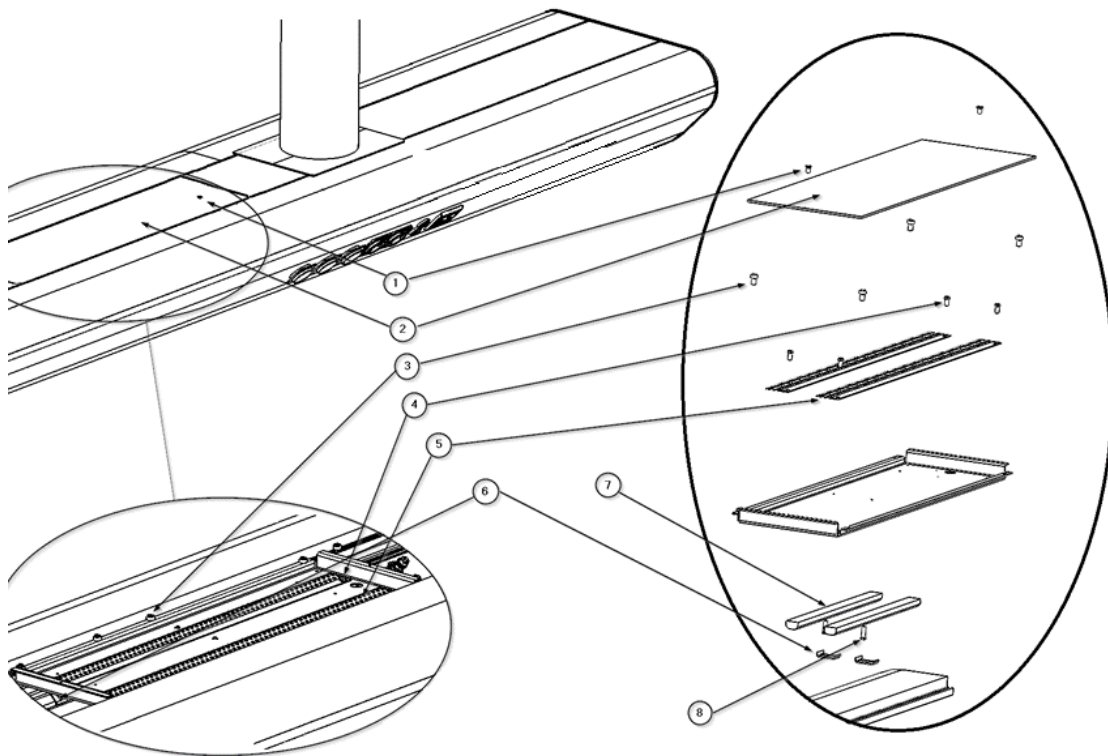

Fig.5 Substitution of indirect light
Figure 5 shows a picture of the service head without the side wall to clarify the situation of the lighting module.
- Unscrew the 2 M4 x 10 countersunk screws ① DIN 935 as shown in figure 5 using a Phillips screwdriver.
- Disconnect the quick connector from the LED strips ④. The module can now be turned over and the controllers ⑤ and their terminal strip can be seen.
- Disconnect the power supply to the controllers ⑤ from the terminal strip.
- Unscrew the M4 x16 hex screws ⑦ DIN 933 by releasing the tabs ⑥ holding the controllers ⑤.
- Fit the new controllers ⑤ and secure them with the tabs ⑥ by screwing in the hexagonal screws ⑦.
- Connect the power supply of the controllers ⑤ back to the terminal strip.
- Unscrew the M4 x16 hex screws ③ DIN 933 releasing the LED strips ④.
- Fit the new LED strips ④ and secure them with the hexagonal screws ③.
- Connect the power supply quick connector of the newly installed LED strips ④.
- Using a star tool, reattach the bracket ② of the lighting module by screwing in the 2 M4 x 10 countersunk screws ① DIN 935.